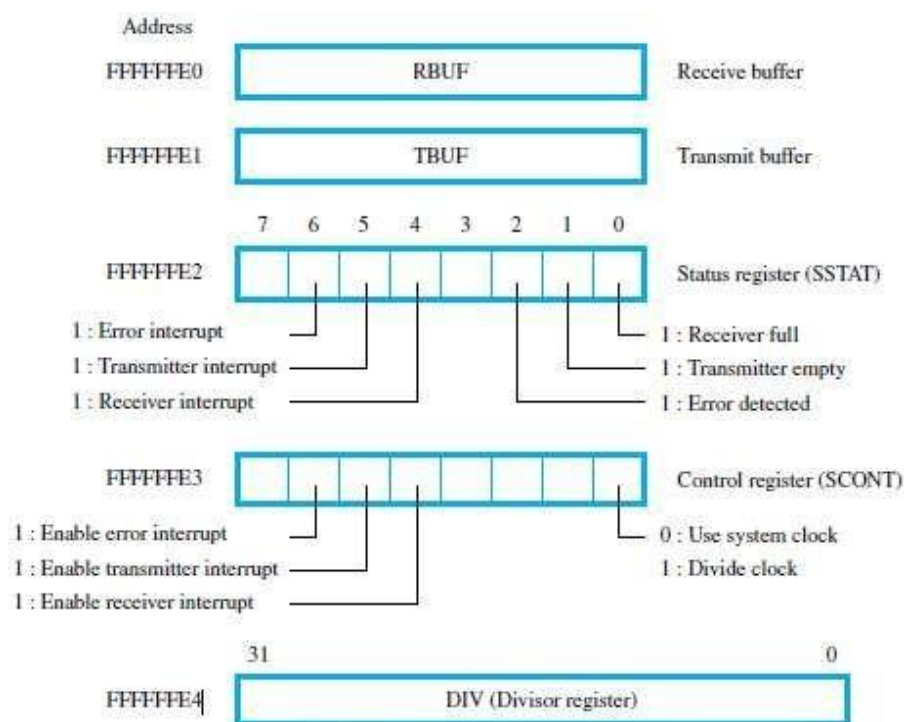

**Figure 10.7** Receive and transmit structure of the serial interface.
- The serial interface provides the UART capability to transfer data (Figure 10.7). (UART □ Universal Asynchronous Receiver/Transmitter).